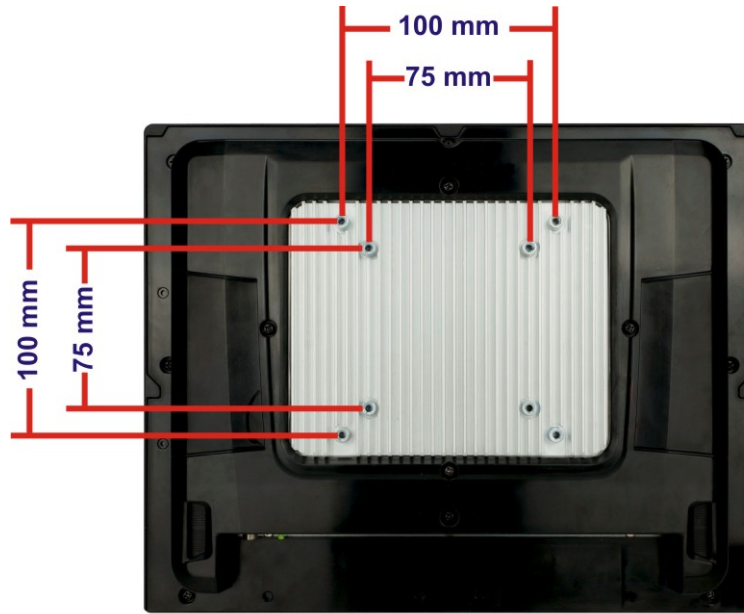

Figure 3-21: Arm Mounting Retention Screw Holes
Step 3: Align the retention screw holes on the mounting arm interface with those in the flat bezel panel PC (**Figure 3-21**).